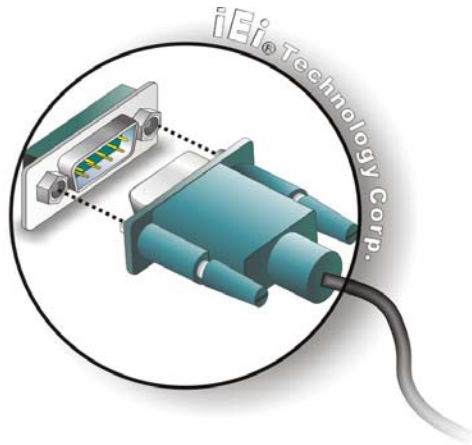

Figure 3-42: RS-232 Serial Device Connector
Step 2: Insert the serial connector. Insert the DB-9 connector of a serial device into the DB-9 connector on the external peripheral interface. See **Figure 3-42**